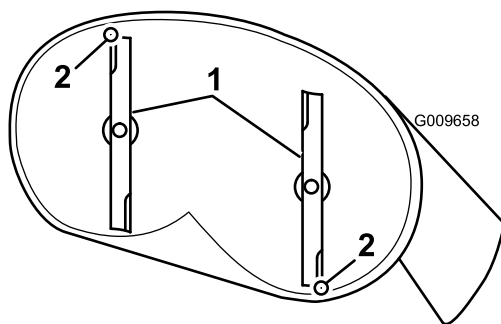

Figure 56
4. Carefully rotate the blades so they are facing front to rear (Figure 56).
5. Measure from the tip of the front blade to the flat surface and the tip of the rear blade to the flat surface (Figure 56). If the front blade tip is not 1/16-5/16 inch (1.6-7.9 mm) lower than the rear blade tip, adjust the front locknut.
8. After adjustment, check the front-to-rear slope again. Continue adjusting the nut until the front blade tip is 1/16-5/16 inch (1.6-7.9 mm) lower than the rear blade tip (Figure 56).